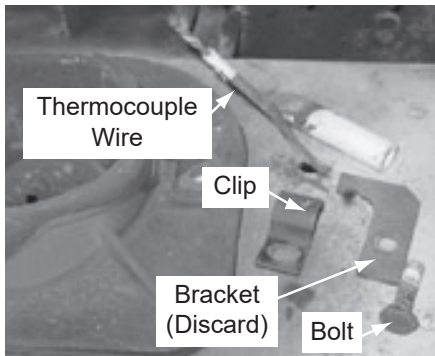

Figure 4
2. The clip, bracket and bolt will all come off together; discard the bracket (**Figure 4**).